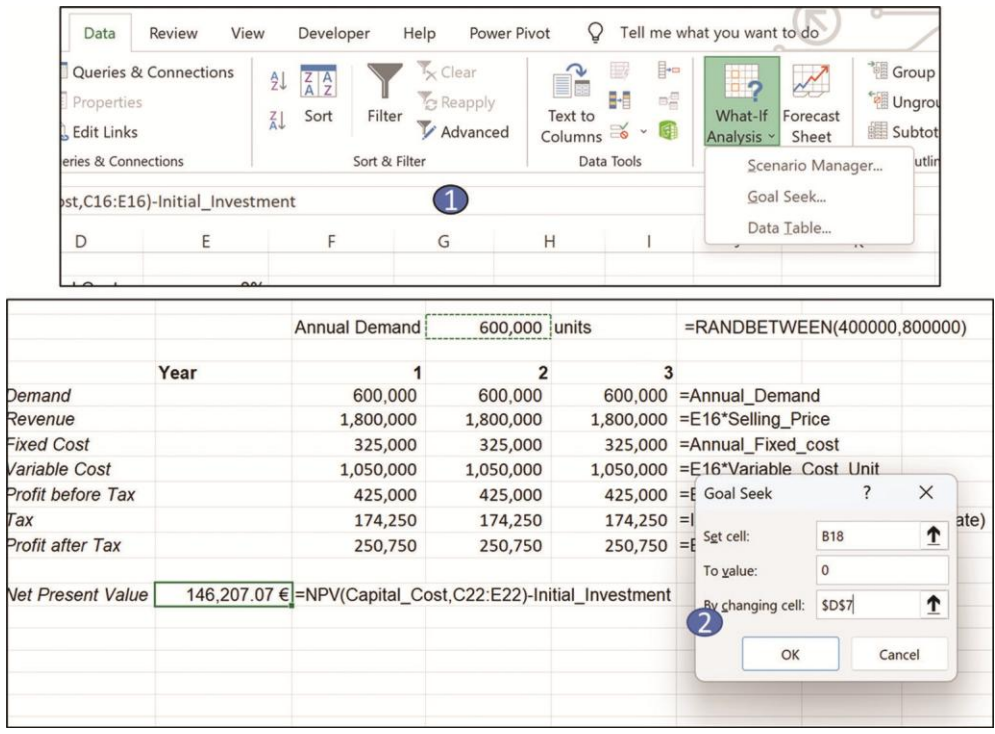

Figure 12.10: Performing the goal seeks to find the break-even point
To answer this question, we must click of cell B18 (the NPV) and use Data>What if analysis>Goal Seek (1). Enter 0 and look for the value in cell D7 (2). See *Figure 12.10*.
Figure 12.17 shows the statistics of this run. The mean of the simulation is 143,175 which is almost equal to the value of Figure 12.10 of 146,207. The maximum and the minimum are also close. If we were to randomize (rand) the simulation 1,000 times, it would be even more accurate. The standard deviation of 124,077 is an indication of the spread we expected.